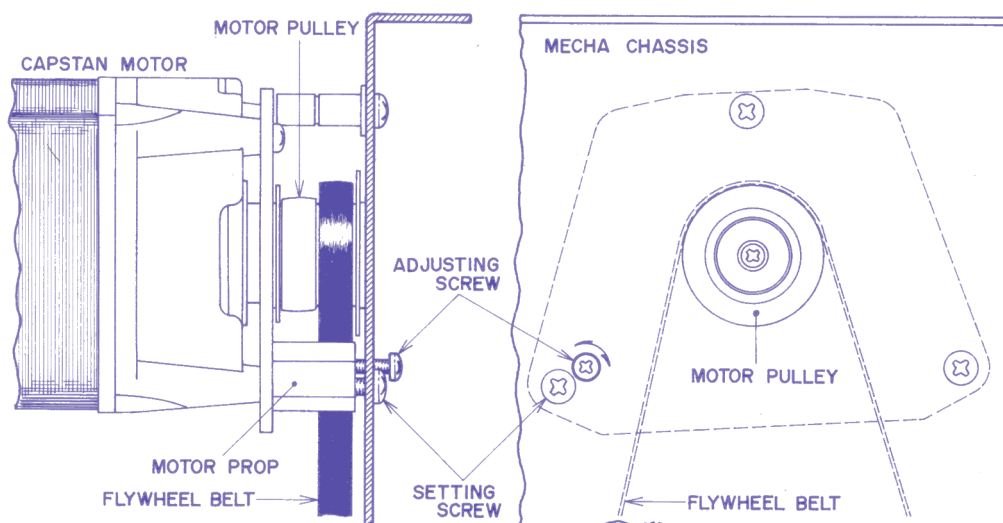

Fig. 17
- 1) With capstan motor revolutions'operating at Rev. mode, loosen setting screw and turn flywheel belt position adjustment screw until the flywheel belt comes to the center of the motor pulley. (Refer to Fig. 17)